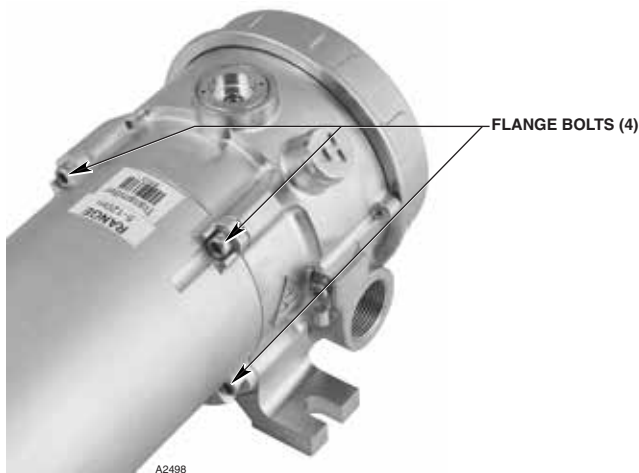

Figure 22— Flange Bolt Location
2. Remove the four stainless steel flange bolts using a 4 mm hex wrench. See Figure 22. Take care to properly support the module as the last flange bolt is removed.